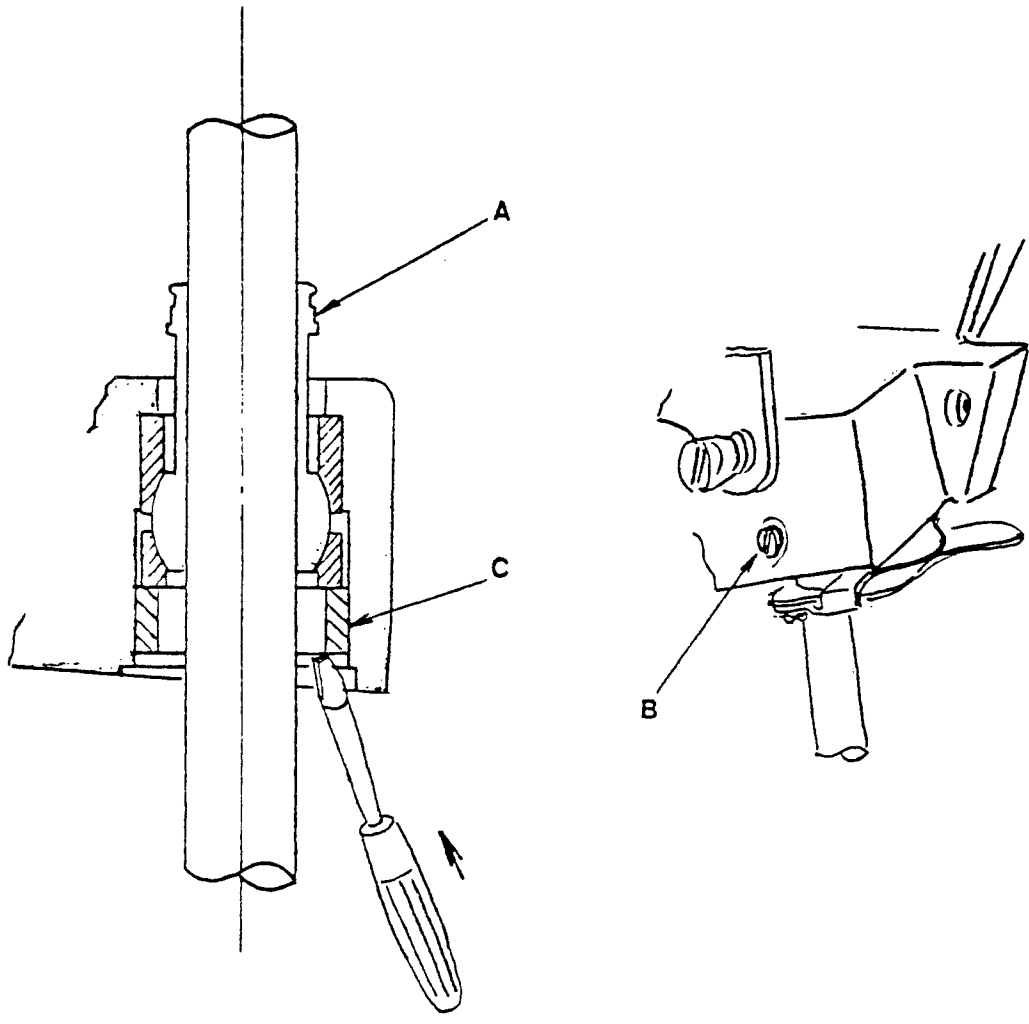

Fig. 4
There should be no vertical looseness, yet the lower needle bar ball bushing (A) must function freely. (Fig. 4).